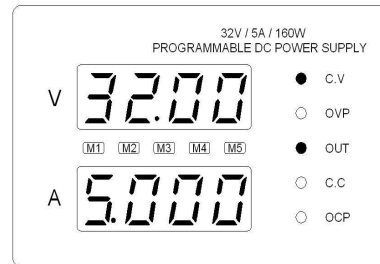

FIG.3 Output status Figure
- (1). Open the power switch, set the voltage, press the VOL voltage adjust selection key, shows the digital voltage regulator tube is selected, the selected digital tube status in the flickering, spinning move ADJUST switch, variable voltage value of the size, again press the VOL voltage adjust selection keys can be selected to change the location of digital tube;
- (2). Current settings, press VUR current adjust selection key, shows the digital tube current regulation is selected, the selected digital tube status in the flickering, spinning move ADJUST switch, set the current value of variable size, once again press the adjust VUR select key, adjust voltage selection button, the selected digital tube location;
- (3). Achieve the voltage and current settings, the time did not press the power button output shutdown, power is turned off, no output, press the OUTPUT key to turn off the output after the status instruction constant (CV), the output status (OUT) of the lantern was lit, power normal work; see FIG.3: